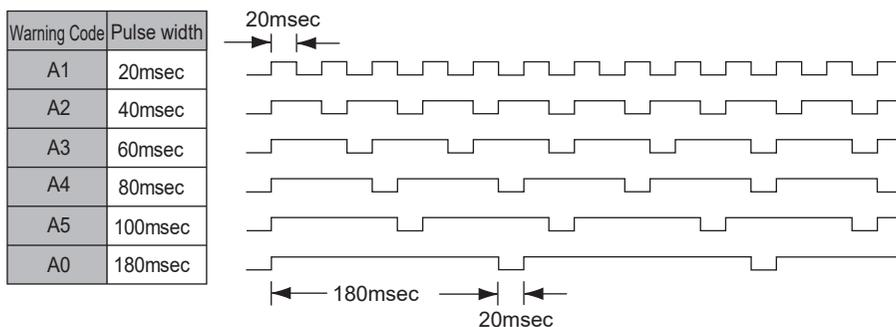

Fig. 49
When a warning occurs, a warning signal is output to the external Input / Output Connector A ③ (terminal No. 20: WARNING). (Refer to Fig. 49.)